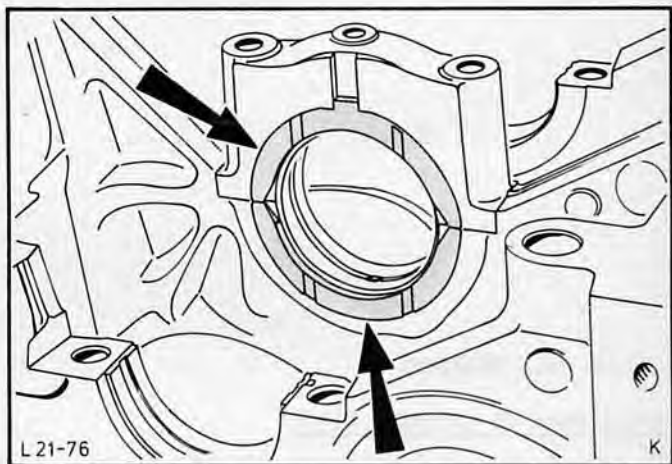

Fig.40. Thrust washer halves.
29. Remove main bearing caps with associated bearing shells. When removing the centre main bearing cap, note the position of the thrust washer halves and mark accordingly, Fig.40.